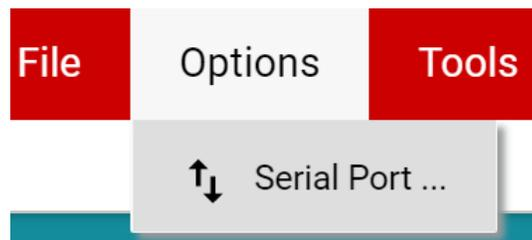

Figure 6. Change Serial Port
- a. If *Hardware Connected* does not show in the bottom-left hand corner of the GUI, check different hardware COM ports under **Options >> Serial Port**, as shown in Figure 6.